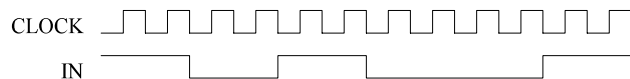

Figure 2
- (c) Complete the timing diagram shown in *Figure 2* by showing the state during each clock cycle and the waveform of OUT. The circuit is initially in state 2. [5]